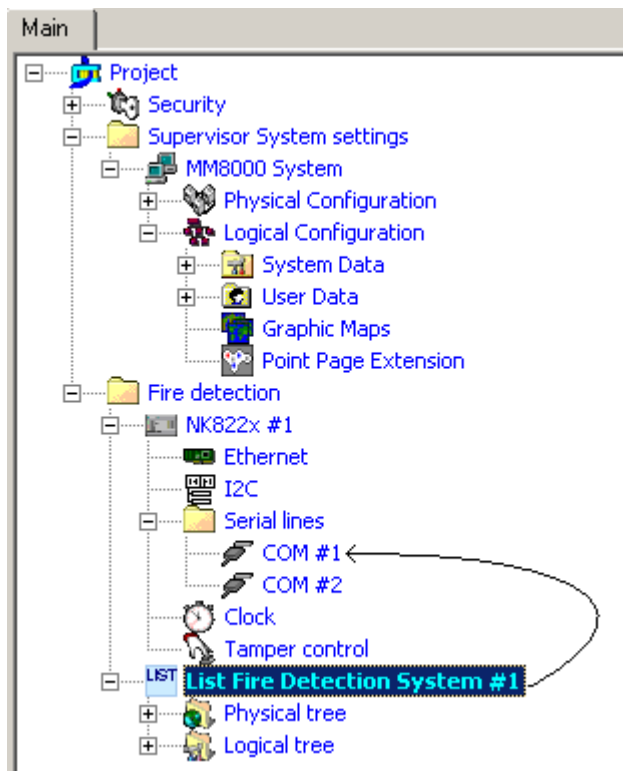

Fig. 16 Link LIST to the NK8000 network
3. Drag and drop the LIST node to the network COM port (see Fig. 16).